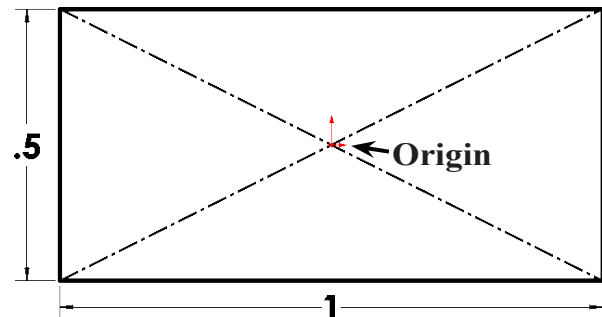

Fig. 2
Step 4. Sketch a rectangle starting at Origin , Fig. 2.
Step 5. Click **Smart Dimension**  (S) on the Sketch toolbar.
Step 6. Dimension **.5** by **1**, Fig. 2.